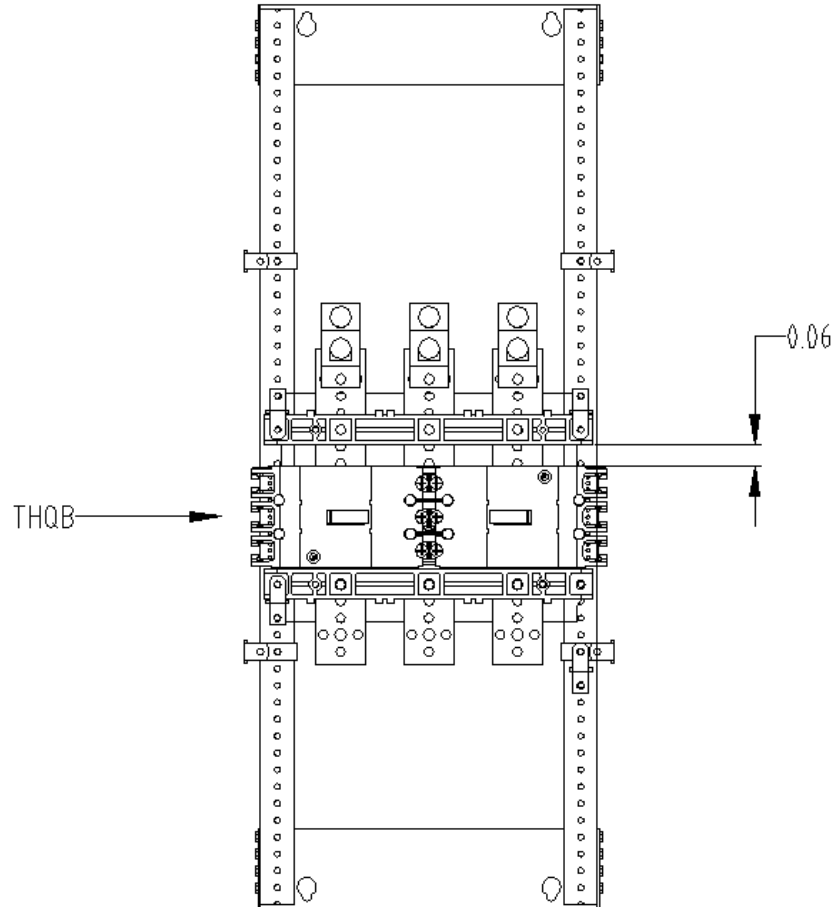

Figure 5. Distance between Crossbar and THQB breaker
10. If THQB breaker has to be installed immediate after crossbar as shown in Figure 5 then gap between the breaker and crossbar has to be 0.06inch.